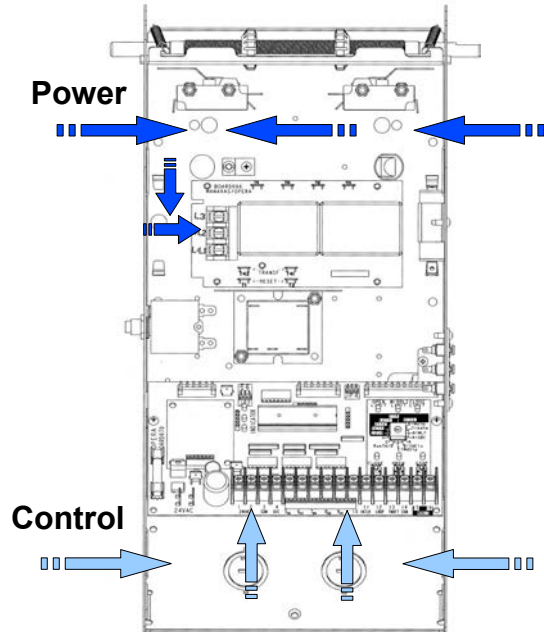

Figure 18 - Low Voltage
1. Route the power line wires either from the right or from the left of the control box, as shown in Figure 18.
2. Route all low voltage control wires, as shown in Figure 18. **KEEP LOW VOLTAGE WIRES SEPARATE FROM LINE VOLTAGE WIRES.**